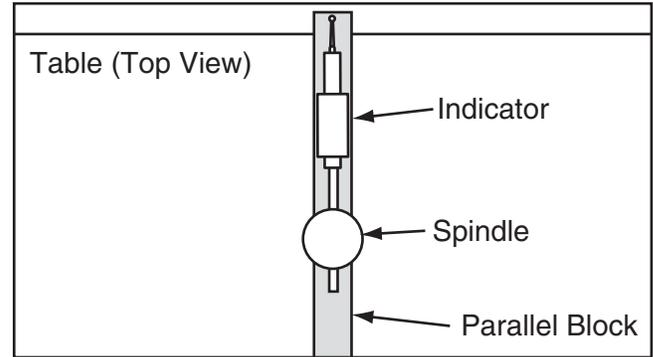

Figure 79. Setup for Y-axis adjustment.
- Place parallel block directly under spindle and across width of the table, as illustrated in **Figure 79**.
- Rotate spindle so that the indicator point rests on parallel block, as illustrated in **Figure 79**, then zero dial.